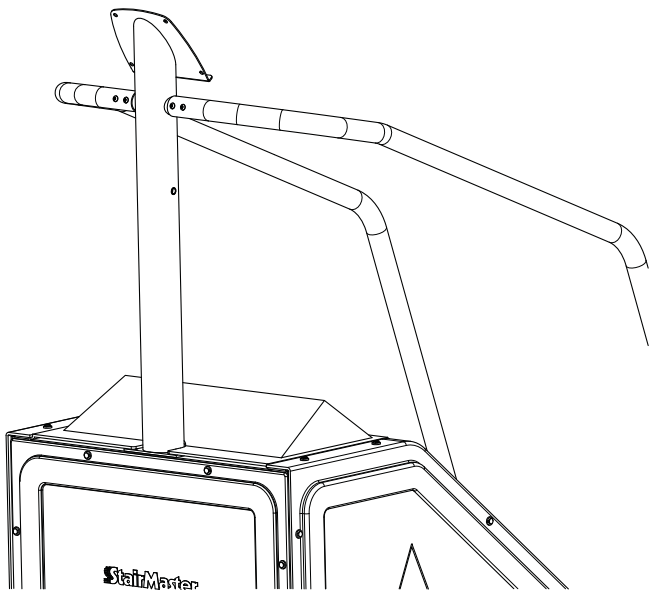

Figure 6B
**6-2** Align the holes of the Side and Top covers to the holes in the frame. Insert 1 New Rivet for each hole and push until the rivet is fully inserted (Figure 6B).